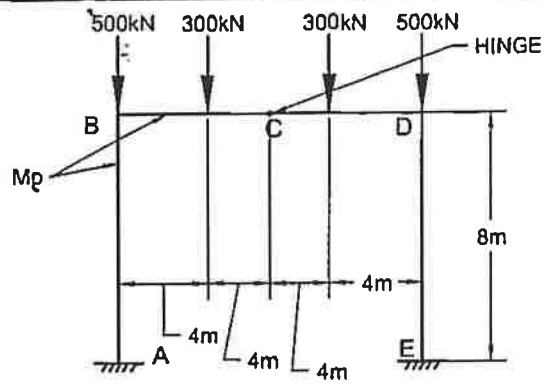

FIGURE2
4. Figure 2 shows a loaded steel rigid frame to be designed using the Plastic Method of Design. The members have the same plastic moment capacity, as shown M_p .